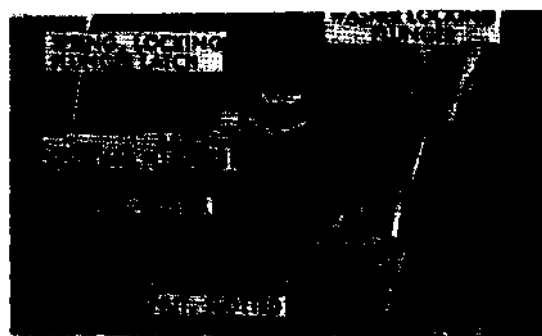

Figure 115. Removing locking plunger latch
- (6) Remove three cotter pins and slotted nuts (fig. 115) from locking plunger, lever, locking plunger latch, and locking plunger retaining studs. Remove locking plunger latch and locking plunger latch spring.
- (9) Position locking plunger washer (fig. 115) over stud and install three slotted nuts, securing locking plunger lever, locking plunger latch, and locking plunger. Secure the three slotted nuts with cotter pins.